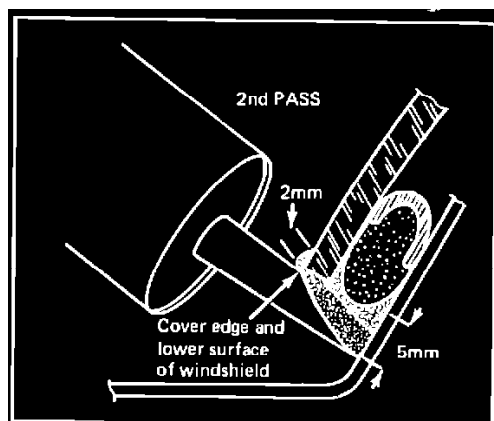

FIGURE 9
11. Pull the seat belt back and forth against the tape-covered "D" ring to ensure that the tape is firmly applied (see Figure 9).
12. Make a 2nd pass to widen the base and cover the edge and surface (2 mm) of the windshield (Figure 9) Adhesive should extend at least 5 mm outside the edge of the windshield.